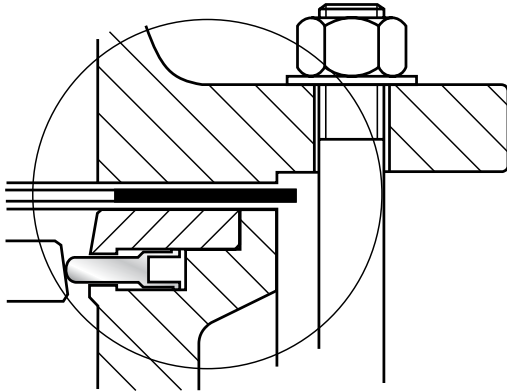

Fig.5-5 Flanges and gaskets
5. Make sure that the butterfly valve and the gaskets are correctly centered and that correct quality is used. By a good shut-off function the pressure of the counterflange is transmitted through the gasket to the cover plate (→ Fig.5-5).